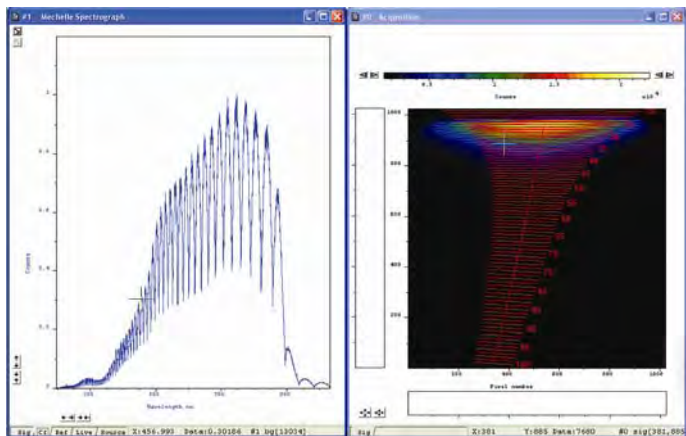

Figure 20: **Cf** tab = Correction factor
3. **Cf:** the correction factor calculated for source data and Ref data (see figure 20 below).